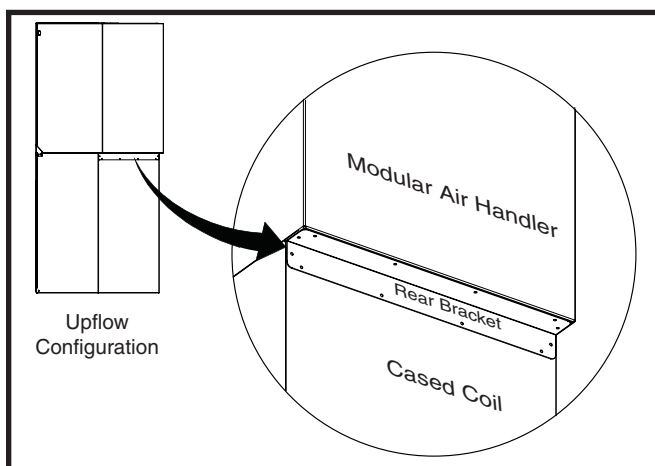

Figure 2. Rear Bracket Installation - (Upflow Only)
2. Carefully place the modular air handler on top of the cased coil making sure not to damage the cased coil flanges. The units will be flush in front with an overhang in the back as shown in Figure 2 \(page 7\).